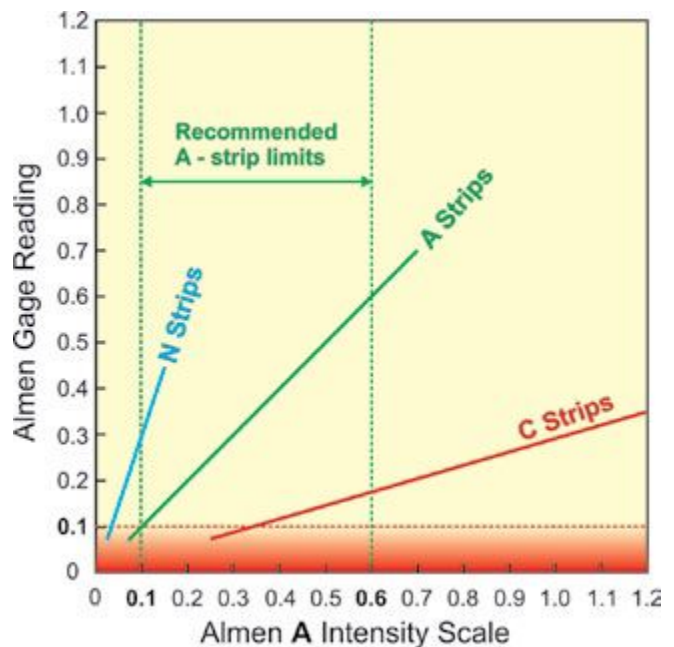

Fig.1 Almen strip sensitivities and recommended ranges of application.
SAE J443 recommends that **A** strips be used for peening intensities from 0.10 mm to 0.60 mm. For intensities below 0.10 mm **N** strips are recommended and **C** strips for intensities above 0.60 mm. These recommendations are simplistic because (a) they do not allow for overlapping specified intensity ranges, (b) no lower or upper limits for **N** strips are recommended and (c) no upper limit for **C** strips is recommended. The overall situation is summarized in fig.1. This indicates (1) that the sensitivity of **N** strips is 3 times that
The majority of shot peening is carried out with Almen **A** strips being involved. They are, however, the only ones that have specified upper and lower peening intensity limits. These recommended limits are illustrated in fig.1 and in fig.2.
Users specify an allowed range for their required peening intensity as well as specifying the thickness of strip that has to be used (N, A or C). Any specified range may, however, span over a 'recommended limit' e.g. 0.50 to 0.70mm using A strips. This is not a problem because it is recognized that measurements do not suddenly become invalid if they exceed a recommended limit. To allow a limited amount of overlapping is perfectly logical. Fig.1 includes a representation of reasonable amounts of overlapping - based on the previous arguments (gage precision and depth of deformed layer induced by peening). Users could use the mid-point of their required intensity range as a guide. For example the mid-point of a 0.50 to 0.70mm range when using A strips is 0.60. This does not exceed the recommended limit of 0.60mm, so that A strips should be specified. On the other hand a range of 0.08 to 1.10mm using A strips would have a mid-point of 0.95mm so that N strip usage should therefore be specified (with the three-fold correction) to become 0.24 to 0.33mm using N strips.